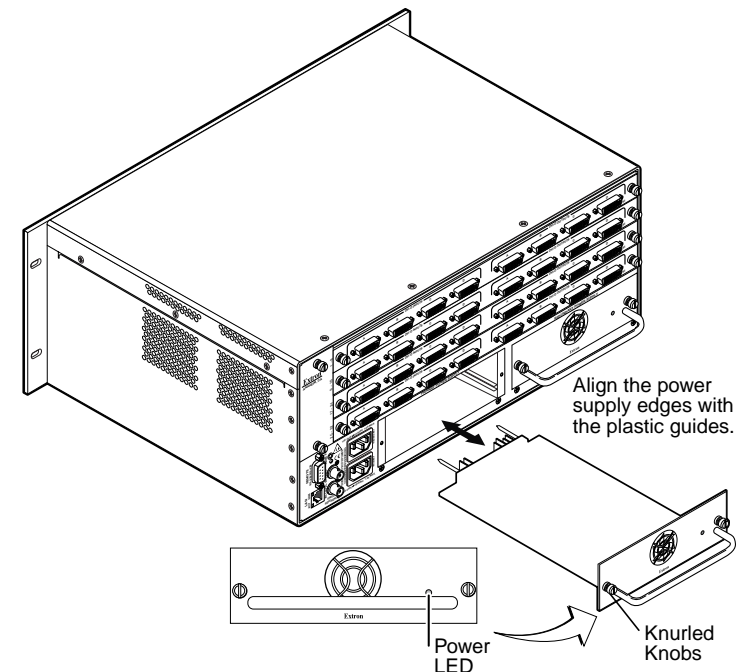

Figure 15. Remove and Install a Power Supply Module
1. Rotate the left and right knurled knobs to completely loosen the captive screws (see figure 15).